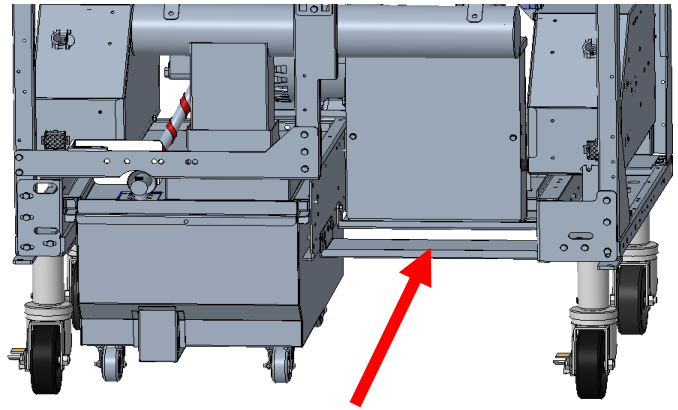

Fig 10
14. Remove JIB cradle and install factory shipping brace if available (Figure 10).